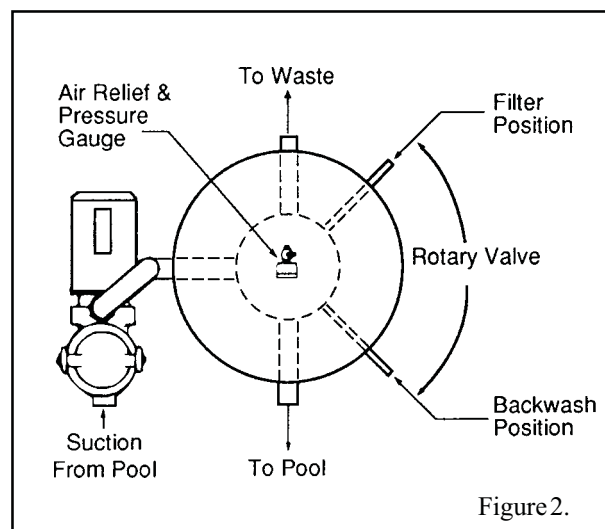

Figure 2.
- b. Rotate handle of rotary valve 90° as shown in Figure 2. **STAND CLEAR OF THE FILTER.**